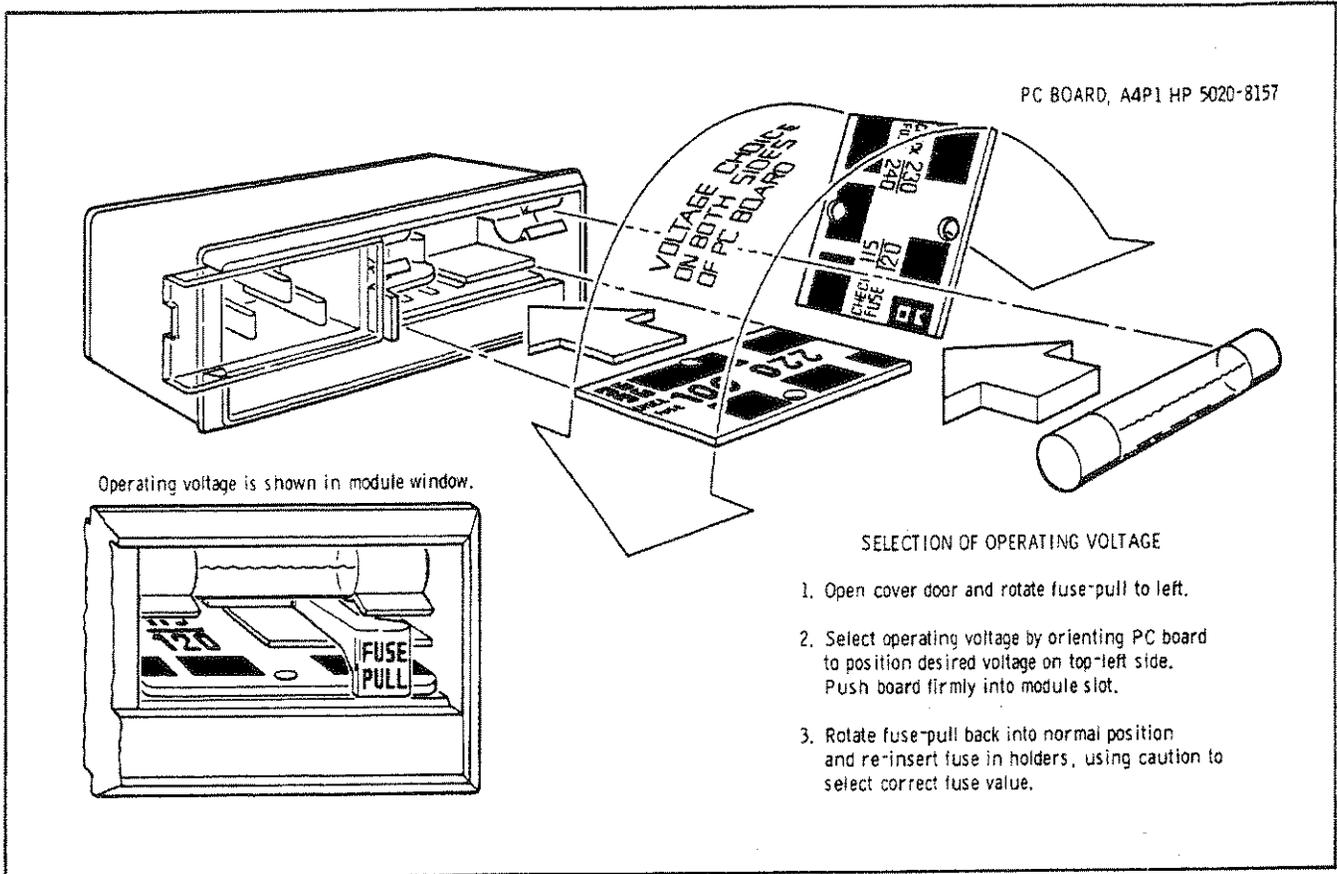

Figure 3. Line Voltage Selection
19. Figure 3 provides instruction for line voltage and fuse selection. The Line Voltage Selection Card and fuse are factory installed for 120 Vac operation.
36. Maintenance by the operator consists of changing the fuse (refer to Figure 3), and LINE switch lamp replacement (refer to Figure 5).
- 9 **Line Voltage Selection Card.** Matches transformer primary to line voltage. Refer to Figure 3.
- a. Verify that the power transformer primary of the 11683A is matched to the line voltage. See Figure 3.
- b. Check the fuse, contained in the Power Module Assembly, for the correct rating. The voltage and amperage are shown on the rear panel. If necessary, change the fuse. See Figure 3.